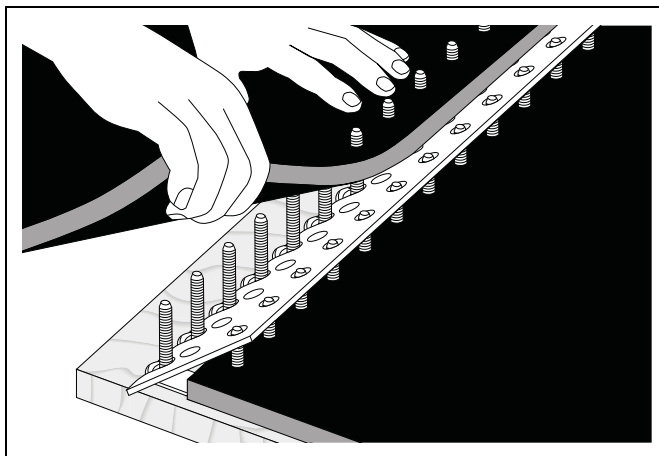

Figure 6K
5. Align bolts with template teeth and place the other belt end over bolts. Remove template. *(See Figure 6K.)*